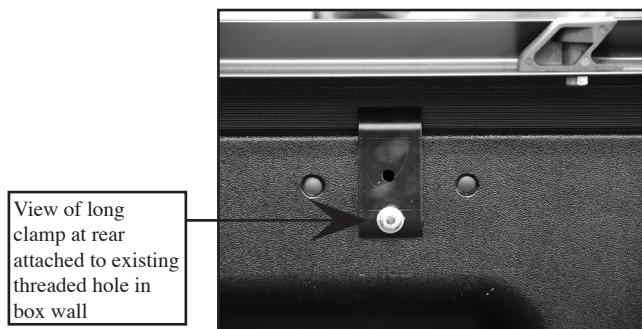

FIGURE 4
4. At rear of box, install another long clamp **(SEE FIGURE 4)** into existing threaded sleeve. Use a new bolt, lock washer and flat washer from kit. Tighten to 75 inch pounds. Again, check rail for level and adjust clamps up or down as needed. Repeat procedure for both side rails.